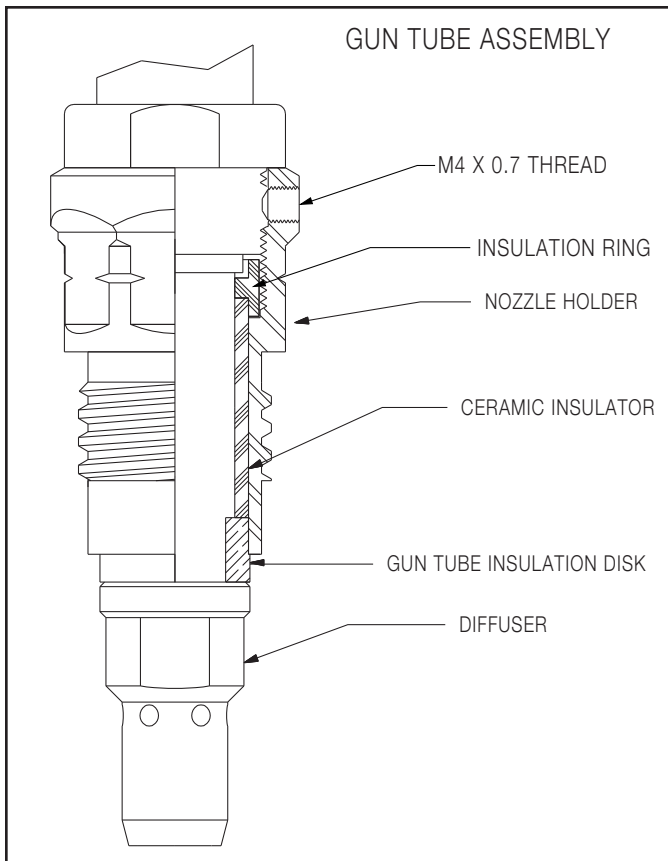

Figure E.1
- The gun tube insulation disk should be periodically examined for wear. To replace the gun tube insulation disk, remove the diffuser and pull off the gun tube insulation disk. Although the gun tube insulation disk does not have a thread, it can be unscrewed from the gun tube. Refer to Figure E.1.
- The nozzle holder can be replaced if the threads are damaged. Remove the diffuser and gun tube insulation disk (refer to a. and Figure E.1). Remove the two (2) set screws that lock the nozzle holder in place. Unscrew the nozzle holder. (**Note: The nozzle holder has a Left hand thread.**) Pull the nozzle holder off the gun tube assembly. Be careful to not drop the ceramic that may come off with the nozzle holder. Coat the inside diameter and the outside diameter of the ceramic with DOW CORNING 340 joint compound (Lincoln part T12837). Check that the insulation ring is in place and place the ceramic on the gun tube. Place the new nozzle holder over the ceramic and tighten in place. Replace the two (2) set screws. Replace the gun tube insulation disk and the diffuser.